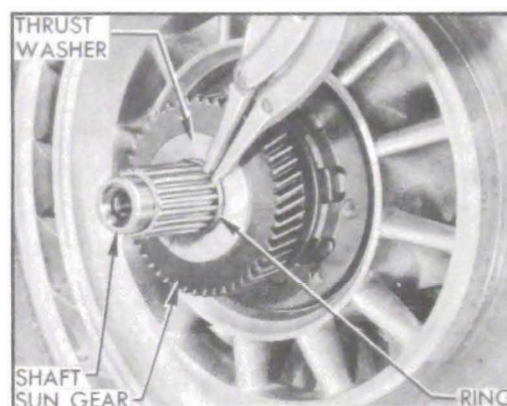

Figure 4-13—Retaining Ring, Washer and Sun Gear
6. Remove retaining ring from groove in input shaft, using snap ring pliers, then remove bronze thrust washer and the sun gear. See figure 4-13.